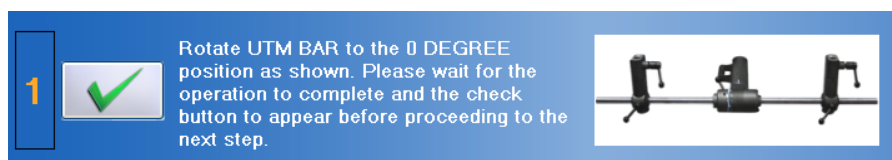

Figure 10-31. UTM - Set the Initial Bar Rotation
Step 2. Click on  to set the initial angle (Figure 10-31).